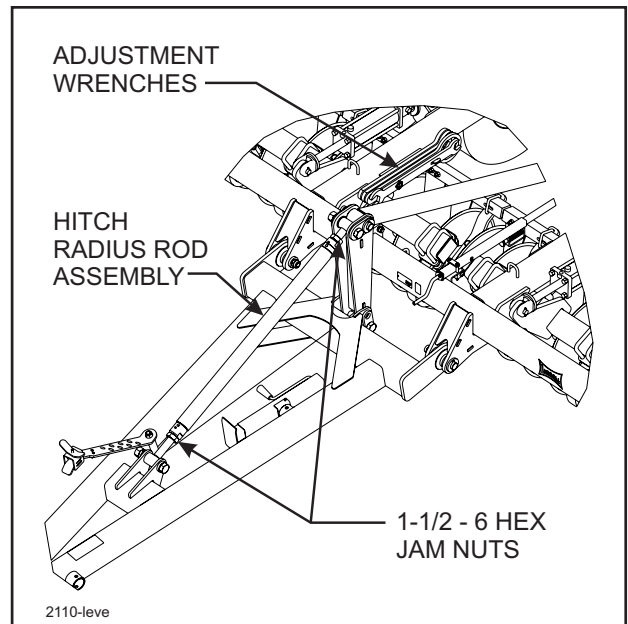

Figure 4-5 Radius Rod Leveling Adjustment
- 4-8.3** To adjust the leveling feature, loosen jam nuts at each end of the radius rod using the adjustment wrenches (See Figure 4-5). To raise the front of the Coulter Chisel, lengthen the radius rod assembly. To lower the front of the Coulter Chisel, shorten the radius rod assembly. After adjusting, retighten jam nuts at each end. Adjustments should be made in small increments.